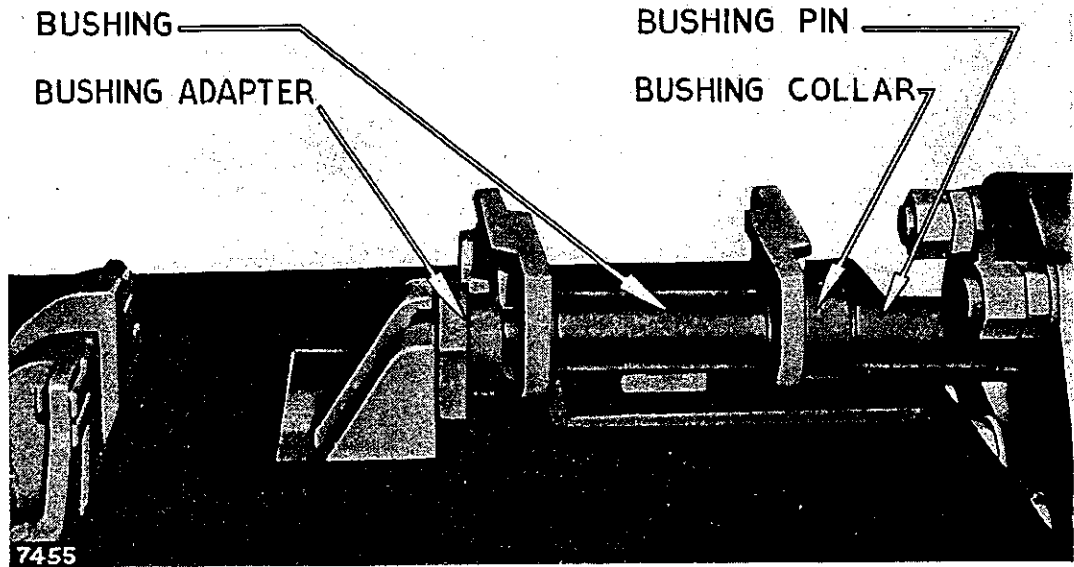

FIG. 3 PRESSING BUSHING IN PLACE
1. Press the bushing in place using a bushing adapter, bushing assembly pin and bushing collar (Fig. 3).